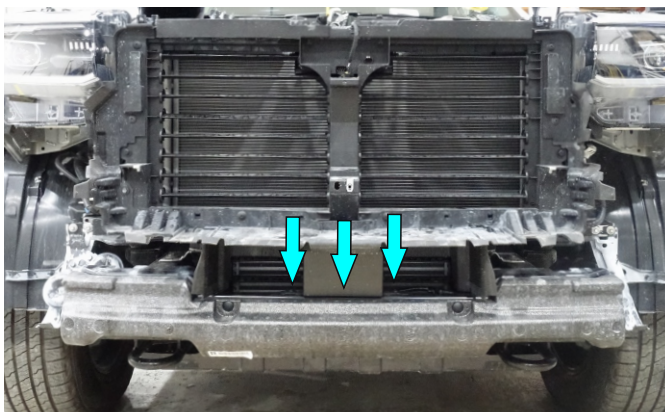

Fig.15
15. Unscrew factory bolts (fig.15,16).